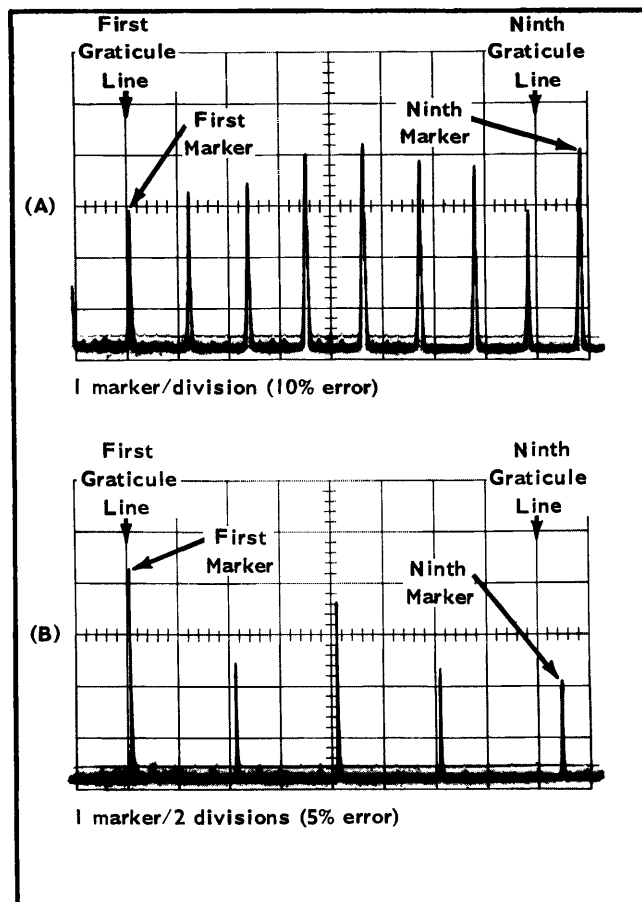

Fig. 5-4. Dispersion Accuracy displays.
f. Use Table 5-3 to check the dispersion accuracy at each DISPERSION/CM setting. Position a modulation pip at the first graticule line and check the ninth pip displacement from the ninth graticule line for displays having 1 division/marker; if the display has 2 divisions/marker, check the fifth marker displacement from the ninth line (see Fig. 5-4).